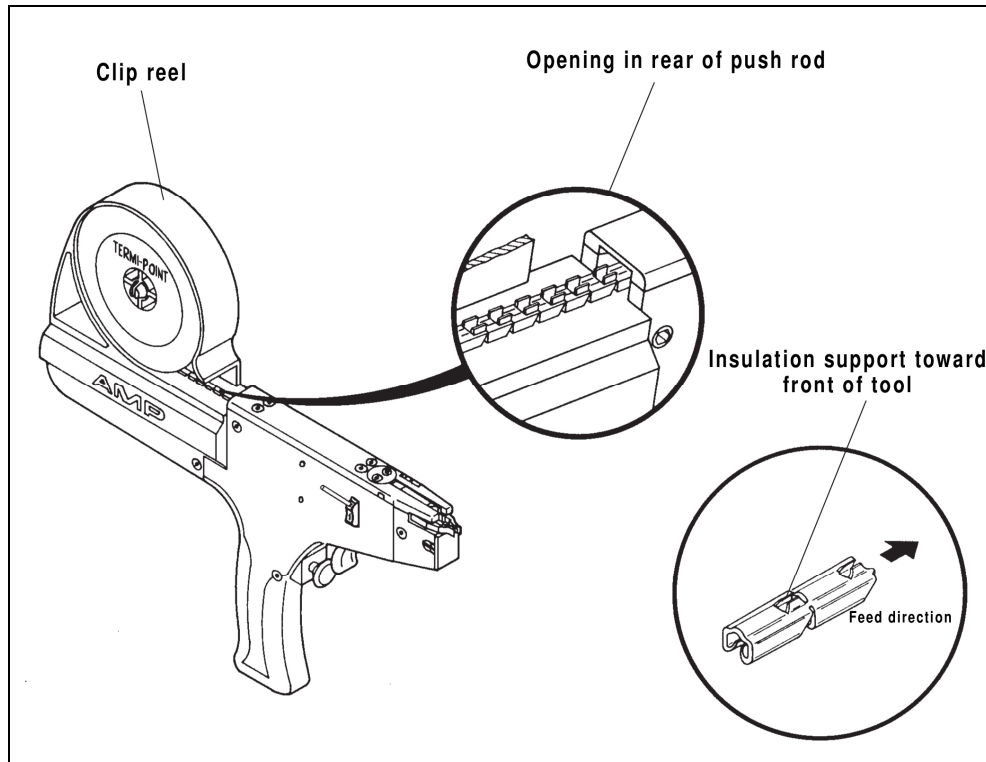

Fig. 9: Loading the Tool
3. Free the exposed end of clip train on reel holder with clips feeding from bottom of reel. Ensure that clips are straight and that insulation supports on clips face toward front of tool (Fig. 9).